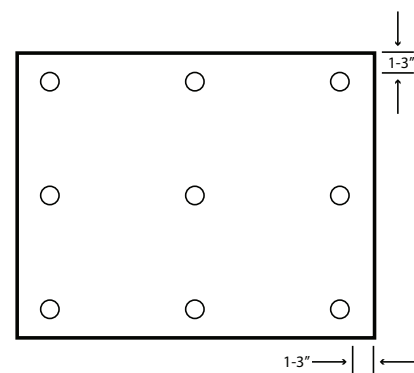

Figure 5 - Three supports scenario
- E. For thinner boards, two part epoxy adhesive can be used instead. Follow the adhesive instruction for the proper cure time of the epoxy between metal clip and Stonewood. Fiberesin recommends working with 3M™ Scotch-Weld™ Structural Adhesives. Use a minimum of three (3) clips in the 4' direction.
- G. Use four (4) lines of Bottom Clip (furring channel) in the 8' direction, for 4'x8' panel.
- J. The outer most screws should be 1-3" away from the panel edges. (Figure 5)